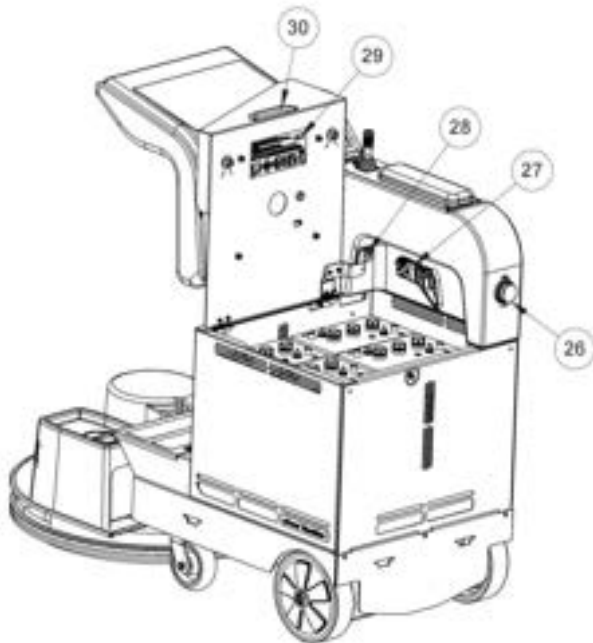

FIGURE 3
- Lift up on the back of the seat plate to expose the battery pack. See Fig. 3 Item 30.
- Connect the cable with the Anderson connector from the battery pack into the Anderson connector mounted to the inside of the control panel. See Fig. 3 Item 27.